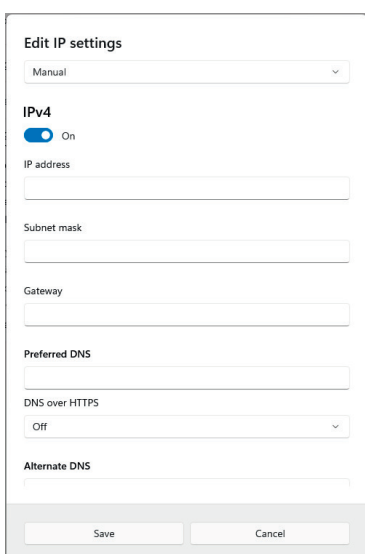

Fig. 5-10: Windows 11, **Edit IP Settings** dialog, full setting options
- ☞ Make the required settings (IP address, etc.) and then click **Save** (Fig. 5-10).